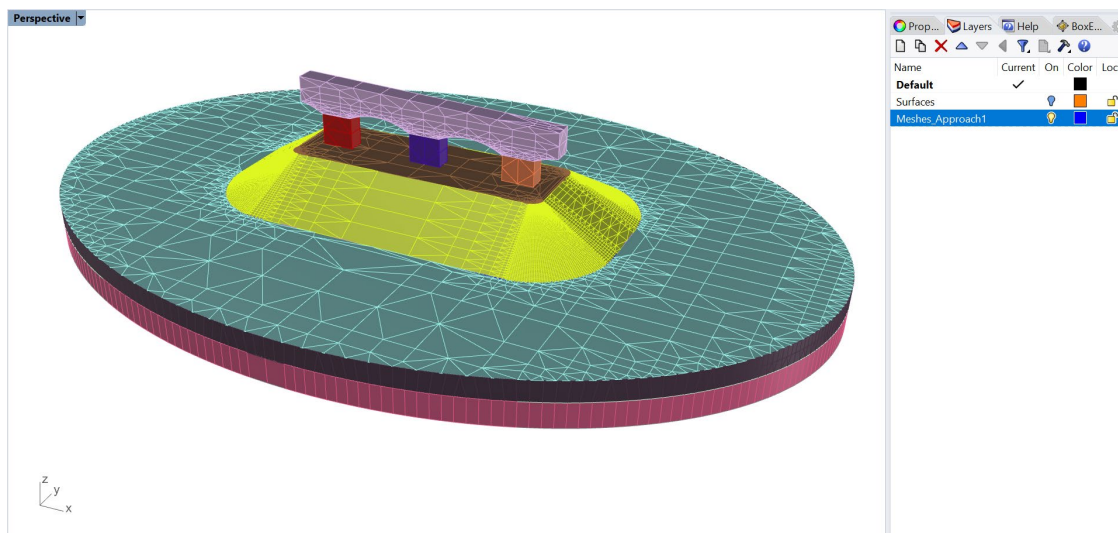
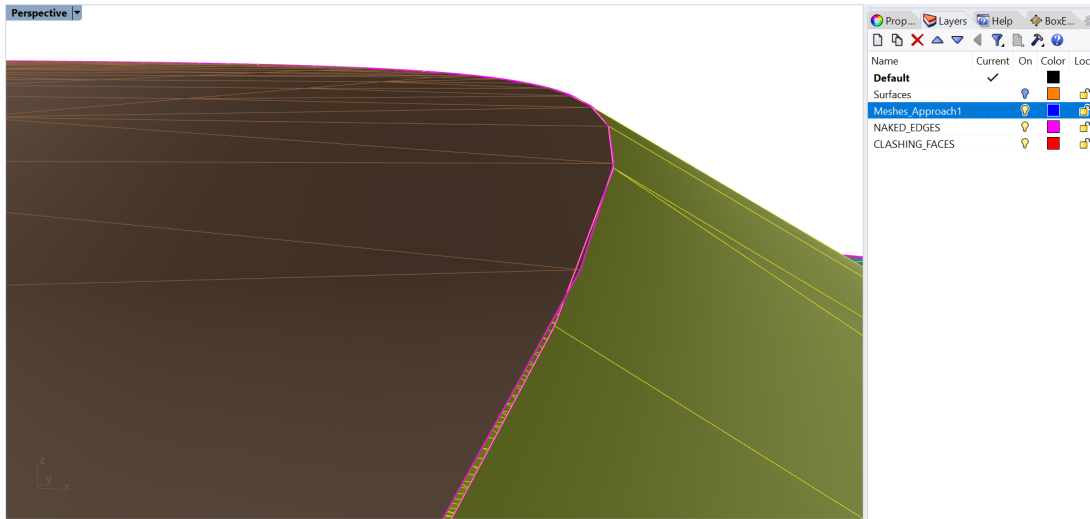

Figure 20: The initial *Rhino* mesh.
Figure 21: Mismatching mesh boundaries in the initial *Rhino* mesh.
The mesh in Figure 20 is not conformal and contains gaps along the curved boundaries (Figure 21). This is due to fact that surface meshes are a discrete representation of the initial analytical (in this case, BRep) surfaces, and the mesh for each object is created independently from any other objects. The gaps and non-conformal faces can be fixed by intersecting meshes using the **Glnt** surface mesh intersector with a properly selected tolerance. Having a watertight surface mesh domain is a required condition for volume meshing. At the same time, making all model meshes fully conformal is usually needed but is not always required for volume meshing (e.g., separate watertight domains must contain conformal surface meshes but the domains themselves may be non-conformal in the areas of contact).
12. Undo the last operations (**_Hide/_Show**, **_GHeal**, **_GInt**) by pressing **Ctrl+Z** until the initial *Rhino* mesh is shown as in Figure 20.